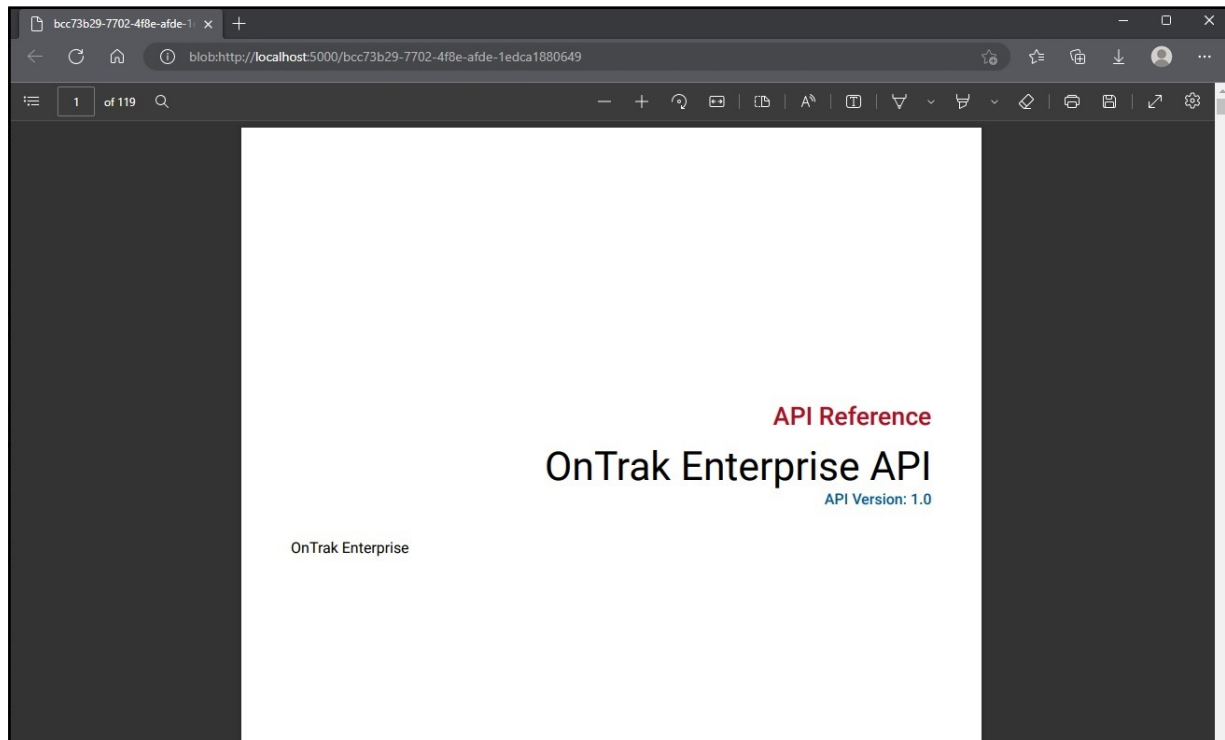

Figure 11-3. API Document Opened In Internet Browser
5. Review the API documentation (see Figure 11-3 on page 145).